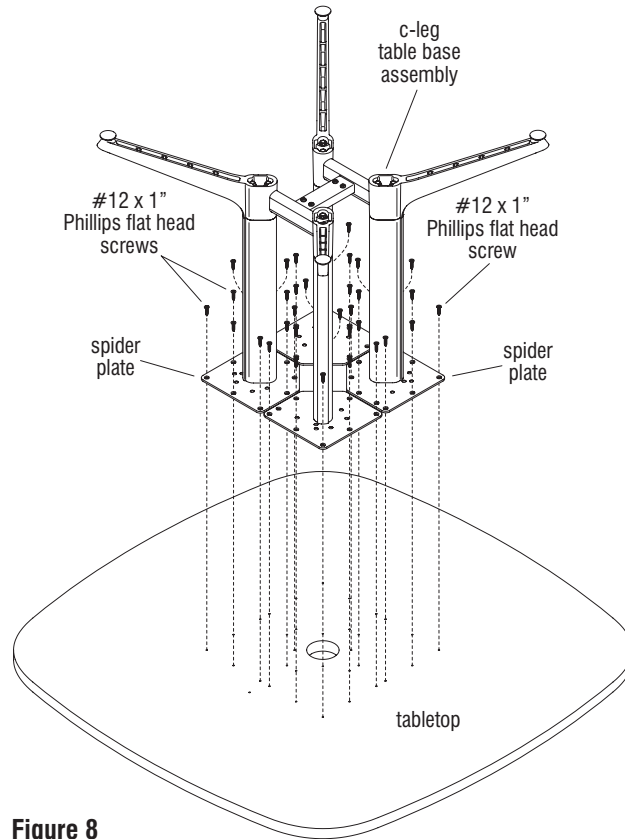

Figure 8
1. Carefully place the tabletop upside down on a soft, protective surface (Figure 8).
2. With the assistance of a second person if needed, carefully set the upside down C-leg table base assembly upside down onto the underside of the tabletop (Figure 8).
3. Align the mounting holes on the spider plates of each C-leg assembly with the mounting holes on the underside of the tabletop and secure using eight #12 x 1" Phillips flat head screws per spider plate (Figure 8).